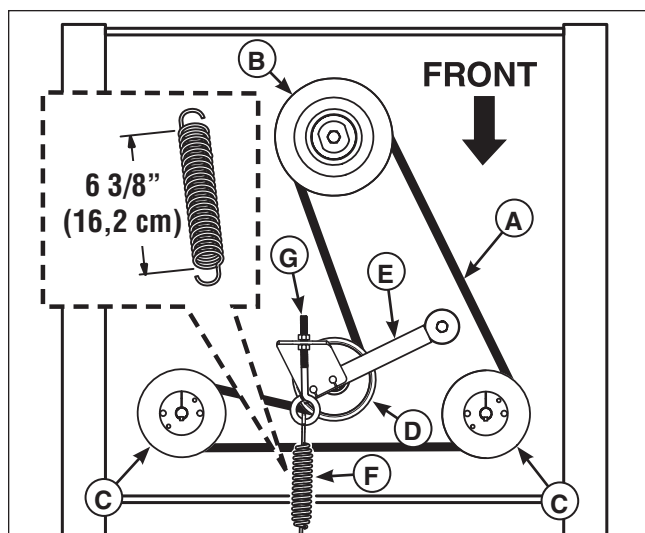

Figure 51. Hydraulic Drive Belt Replacement
4. Loosen the nut on the spring anchor eyebolt (G, Figure 51) to release the majority of the belt tension. Use caution and remove the nut to completely release the tension.
6. Reinstall the spring anchor eyebolt (G) into the anchor tab and loosely fasten the nut. Adjust the anchor eyebolt until a measurement of 6-3/8" (16,2 cm) is achieved from spring body. Tighten nut.